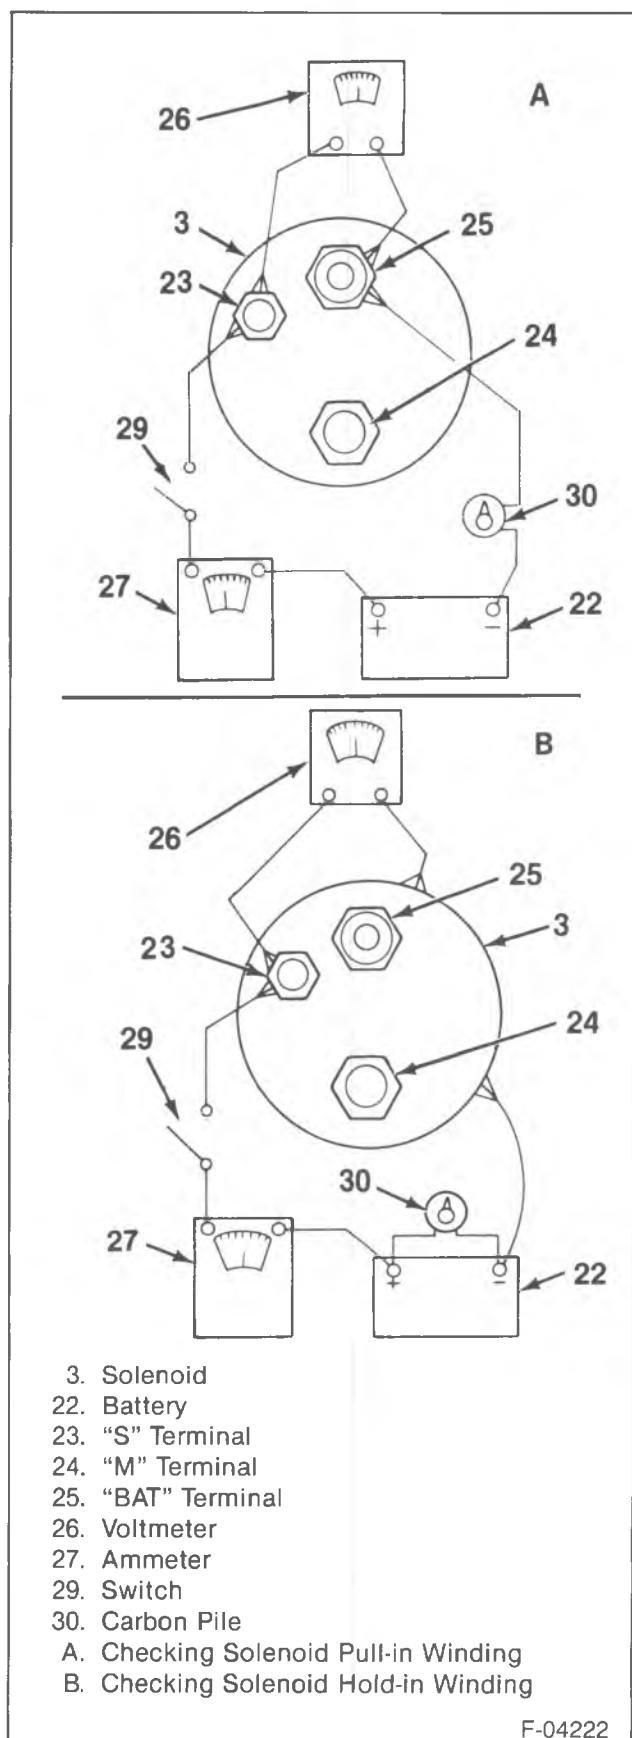

Figure 33—Solenoid Test Connections
- With all the leads disconnected from the solenoid, make the test connections as shown in figure 33.